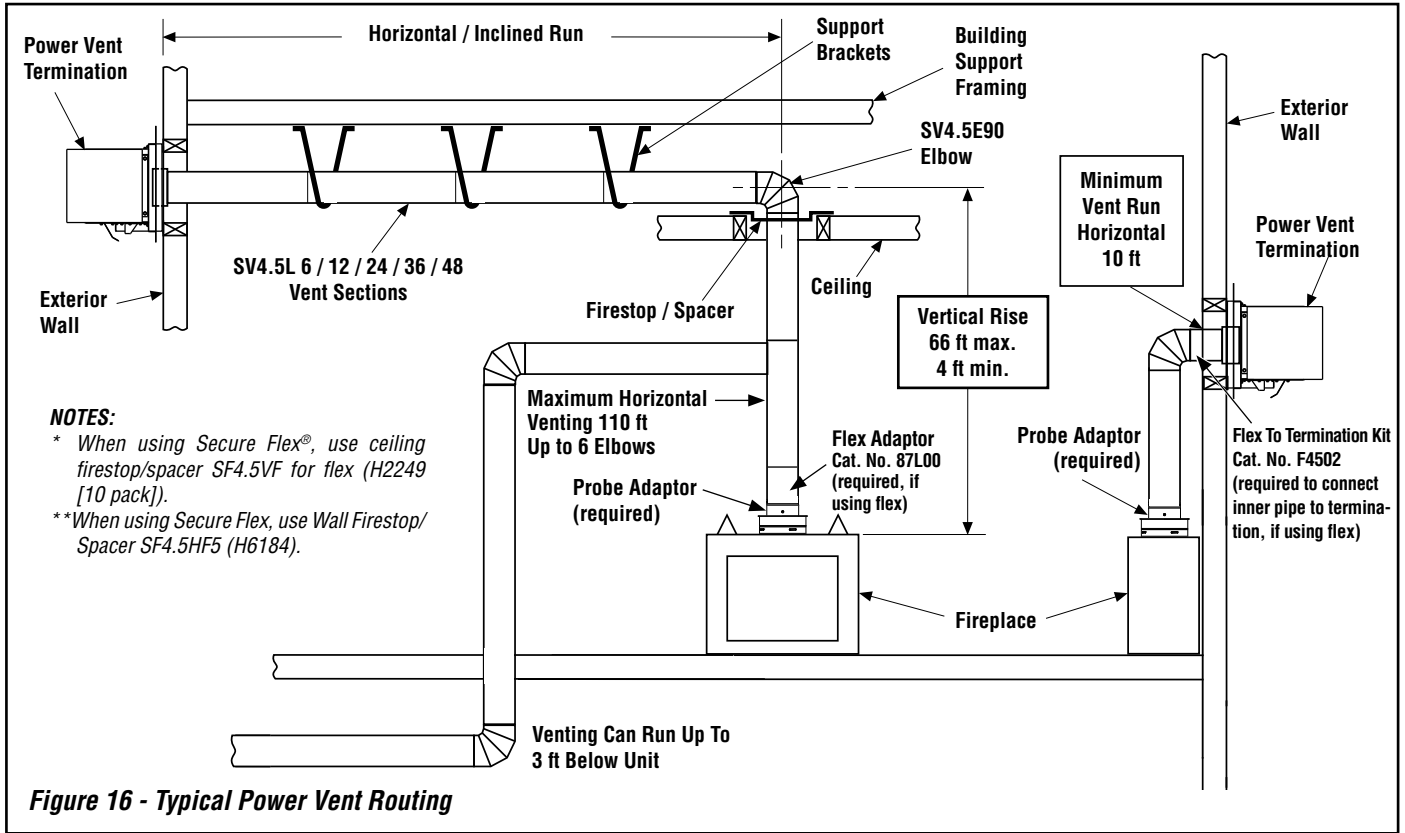

Figure 16 - Typical Power Vent Routing
C. Attach vent components to each other - Other vent sections may be added to the previously installed section in accordance with the requirements shown in Figures 16 and 17 on Page 17.
G. Continue installation of horizontal/inclined sections - Continue with the installation of the straight vent sections in horizontal/inclined run as described in Step C. Install support straps every three feet (914 mm) along horizontal/inclined vent runs using conventional plumber's tape (Figure 16 on Page 17).
See **Figures 16 and 17 on Page 17** illustrating the various horizontal venting configurations that are possible for use with these appliances. **Table 9 on Page 17** shows each system's minimum and maximum vertical and horizontal length values that can be used to design and install the vent components in a variety of applications.
I. Continue installation of horizontal/inclined sections - Continue with the installation of the straight vent sections in horizontal/inclined run as described in **Step E**. Install support straps every three feet (914 mm) along horizontal/inclined vent runs using conventional plumber's tape (see **Figure 16 on Page 17**).